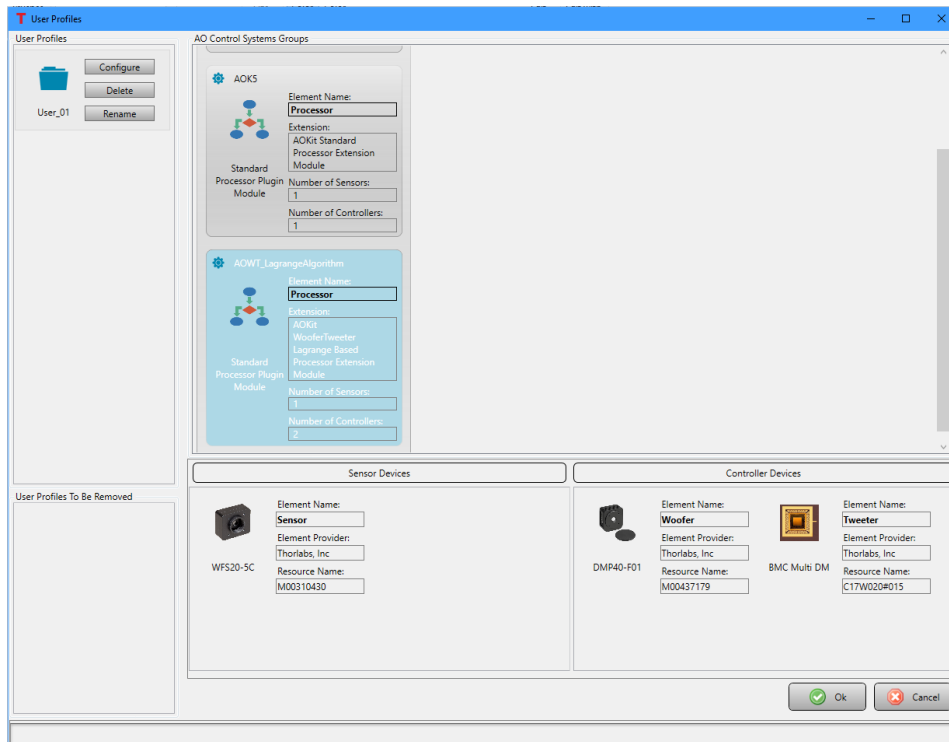

Figure 89 User Profile window is showing the newly created Woofertweeter control system, as well as the details about the linked sensor and controller devices.
7. Click the Ok button to close the window, which will update the User Profile window to include the details about the devices linked to new system. See Figure 89.